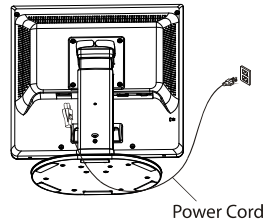

Figure 1-4
1. Connect the power cord to the LCD Monitor. (See Fig. 1-4)